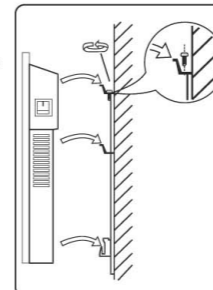

Fig. 5
7. Place the convective heater on the bracket matching 4 slots on rear surface with 4 shoulders on the bracket (Fig. 5) and pull down.